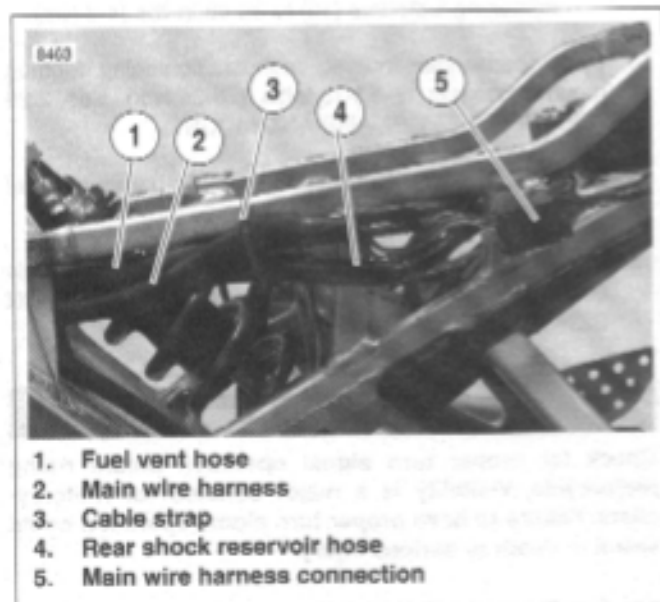
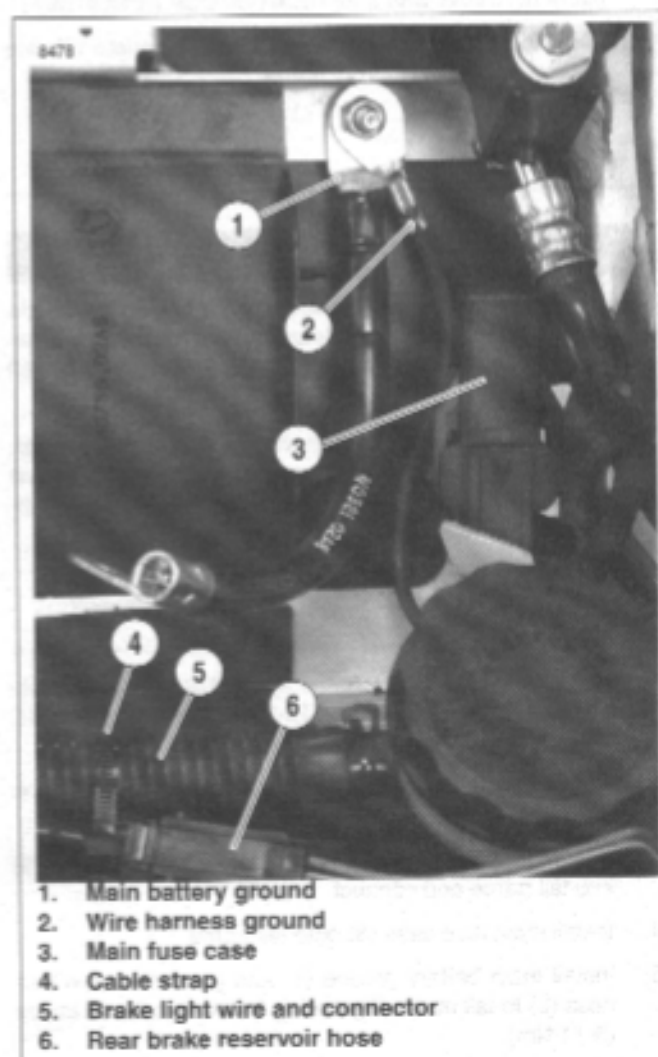
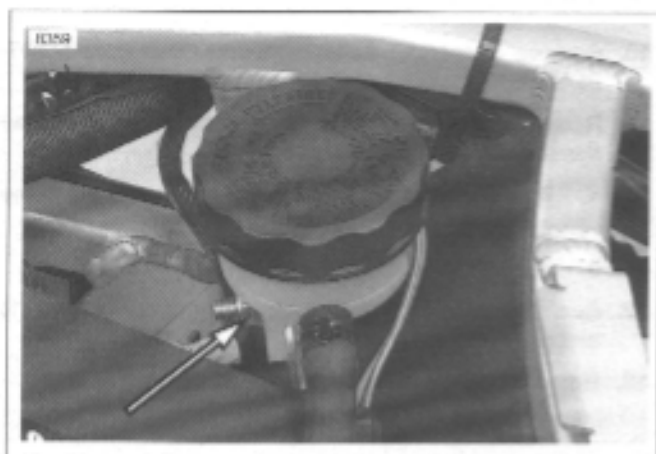

Figure 2-109. Left Side Tail Frame Hose and Wire Routing
Figure 2-110. Inside Tail Frame Hose and Wire Routing
Figure 2-111. Remote Reservoir Clamp Nut
- a. Remove body work fasteners (2).
- b. Disconnect passenger lock cable (6) by removing cable from seat lock plate (4) and ferrule from key-lock (3).
- c. Lift upper tail body work (1) off tail frame (8).
4. Remove passenger seat latch (14) from rear of tail frame.
5. See Figure 2-109. Disconnect rear power harness connection (5).
11. Remove lower body work (9) and trunk (11) from tail frame (8).
- a. Remove lower body work (9) underneath tail frame by removing fasteners (10).
- b. Remove trunk (11).
12. See Figure 2-110. Disconnect main battery ground (1) and ground to wire harness (2).
13. Remove main fuse case (3) from tail frame.
14. See Figure 2-110. Cut cable strap (4) holding rear brake light wire (5) and rear brake reservoir hose (6).
15. Disconnect rear brake light connection (5).
16. See Figure 2-109. Cut cable strap (3) from tail frame holding vent hose (1), main wire harness (2) and shock
17. See Figure 2-111. Remove rear brake reservoir clamp nut.
1. Install tail frame (8) to frame and tighten tail frame fasteners (7) to 21-23 ft-lbs (28-31 Nm) using LOCTITE 272.
3. See Figure 2-110. Feed rear brake light connector (5) into tail frame and connect.
4. Install main fuse case (3) onto tail frame.
5. Install main battery ground (1) and ground to wire harness (2) to tail frame. Tightening fastener to 72-96 in-lbs (8-11 Nm).
6. See Figure 2-109. Feed the rear shock reservoir (4) through second tail frame support.
9. See Figure 2-109. Feed fuel vent hose (1) through tail section, keeping the hose on top of rear shock reservoir hose. See D.1 HOSE AND WIRE ROUTING for hose and wire routing.
10. Install cable strap (3) holding shock reservoir hose, wire harness and fuel vent hose to tail frame.
11. See Figure 2-111. Feed rear brake reservoir hose underneath tail frame and install rear brake reservoir tightening fastener to 48-72 in-lbs (5.4-8.1 Nm).
12. See Figure 2-110. Install cable strap holding brake light switch and rear reservoir hose.
- a. Install trunk (11).
- b. Install lower body work (9) underneath tail frame by tightening fasteners (10) to 36-48 in-lbs (4-5 Nm).
15. See Figure 2-109. Connect rear power harness to tail light harness (5).